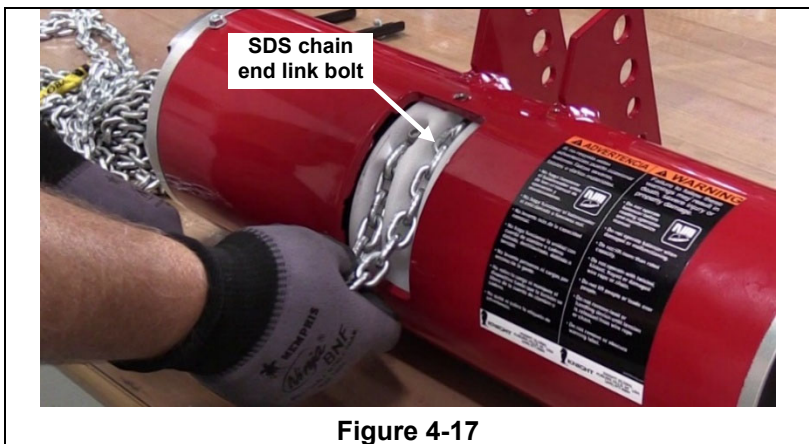

Figure 4-17
- Step 8. Remove the SDS chain end link bolt and washer from the spool and chain. (See Figure 4-17)